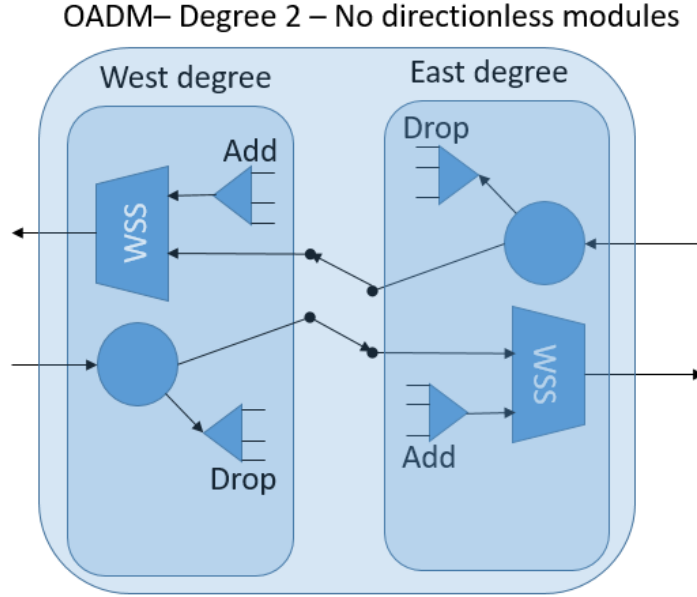

Figure 2: Degree 2 OADM to configure.
- In the ring network, all the OADM's have a degree two, meaning that they are connected to two other nodes. Fig. 2 illustrates the type of OADM that should be configured. For this, use the appropriate right-click options in the **OADM**s table, and mark the following characteristics for all OADM's: